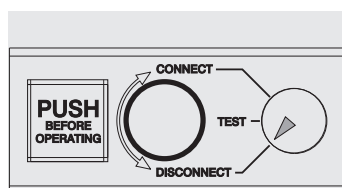

Figure 51
- circuit breaker in DISCONNECT position (see Figure 51)